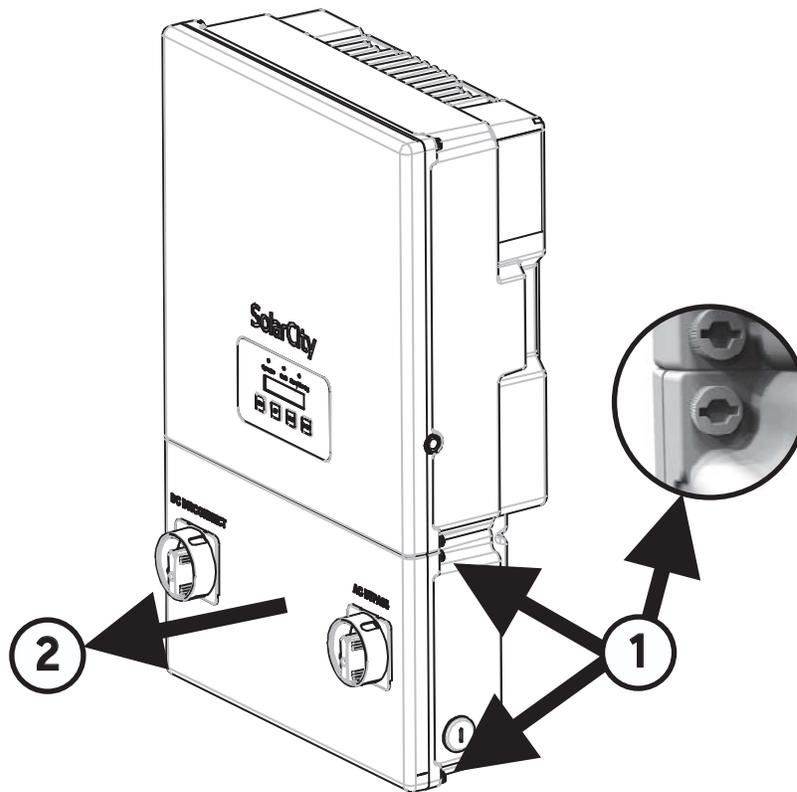

Figure 5-3: Removing the wiring box cover and close-up of screw head
3. Use a 5mm Allen ratchet screwdriver to install the four (4) cover screws (see Figure 5-3). Torque the screws until the cover is tight and securely fastened. Do not over-tighten the screws.